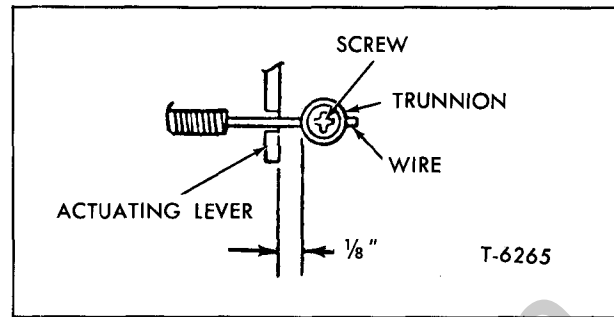

Figure 9—Control Cable Trunnion Installation
5. Position the trunnion on the wire with 1/8-inch clearance between the trunnion and actuating lever (see fig. 9). Tighten the trunnion screw.